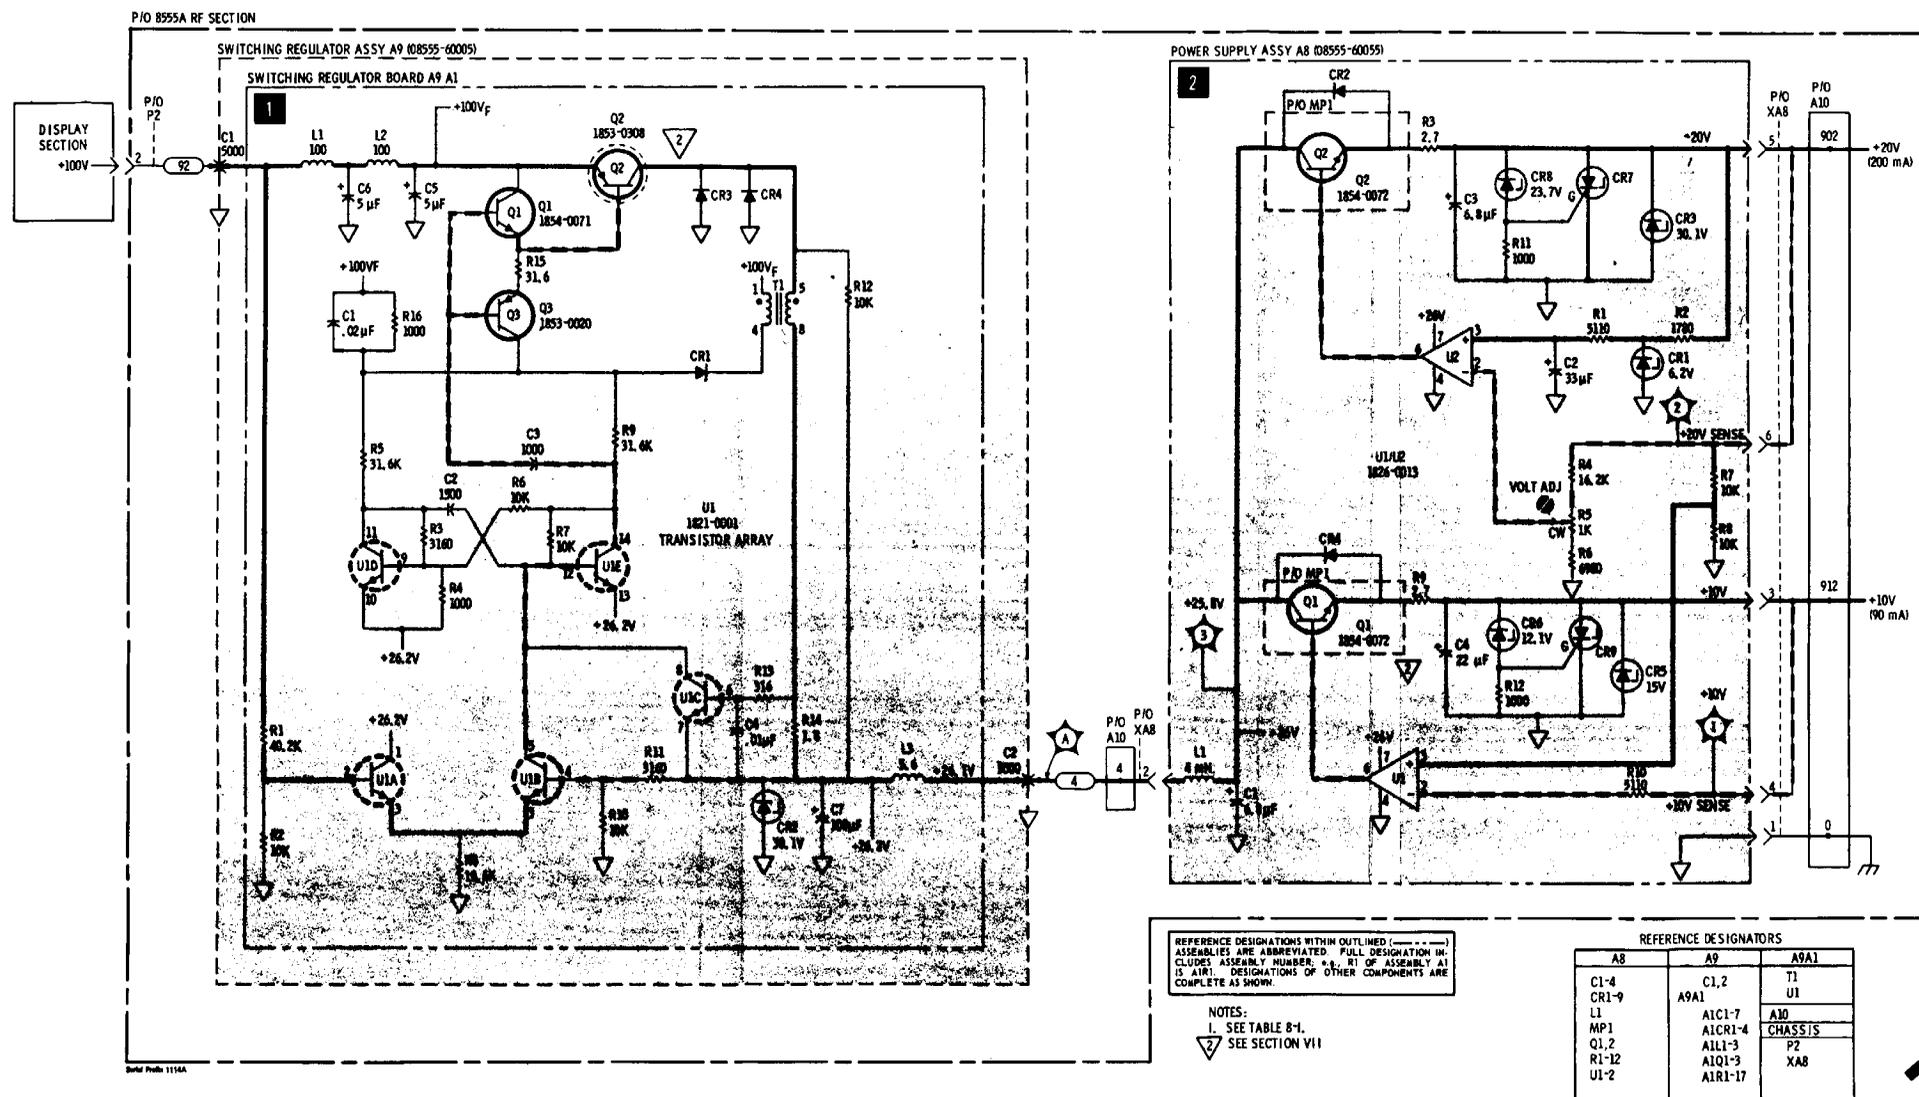

Figure 8-72. Switching Regulator and +10/+20 Volt Power Supply
Transistor A9A1Q2 (Figure 8-72) functions as the regulator switch. The transistor is switched "on" and "off" completely rather than functioning as a variable resistor series pass element. Operating in this manner the efficiency of the regulator approaches 100%. Transformer T1 functions both as an inductor and a transformer. Winding 5 and 8 act as an inductor (L) and capacitor C7 is the output capacitor (C). Winding 1 and 4 provides regenerative (positive) feedback to the bases of the switching transistors. This ensures rapid and complete switching